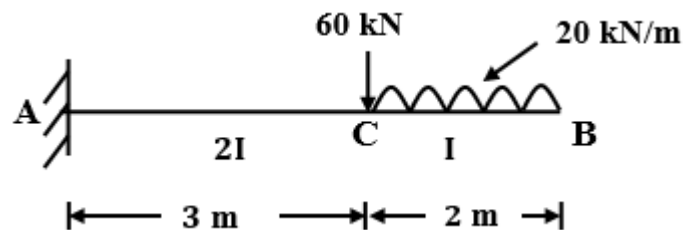

Figure 4 [Q-5 (a)]
- a) Calculate slope at 'B' θ_b and deflection at 'B' δ_b for the cantilever beam shown in **figure 4** using Moment area method OR Conjugate beam method. Consider $E = 2 \times 10^5 \text{ N/mm}^2$ and $I = 5 \times 10^8 \text{ mm}^4$.